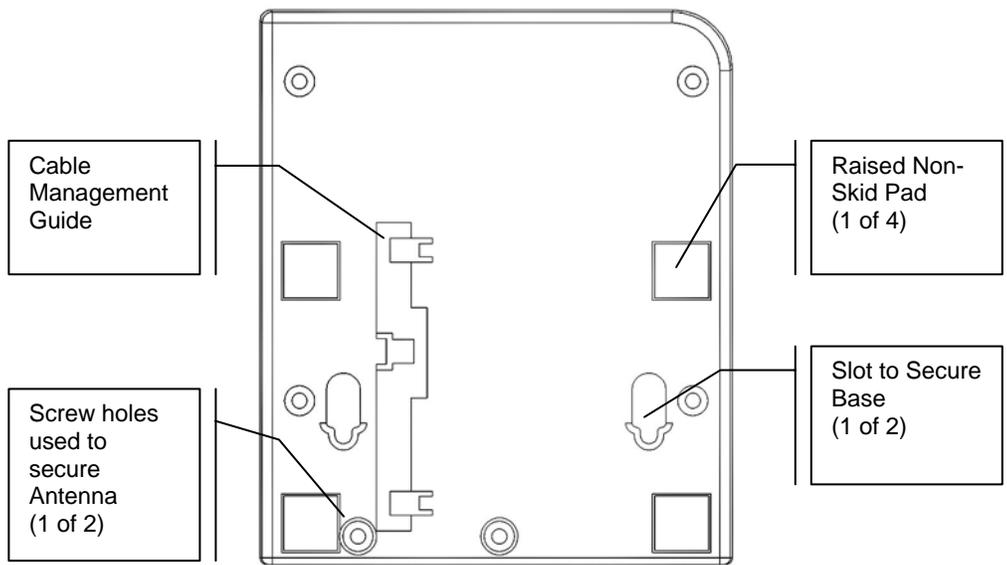

Figure 12. SDX USB Interface Base
2. **Figure 12**). Keep in mind that you may need to periodically access the Sensor cradle for channel configuration.